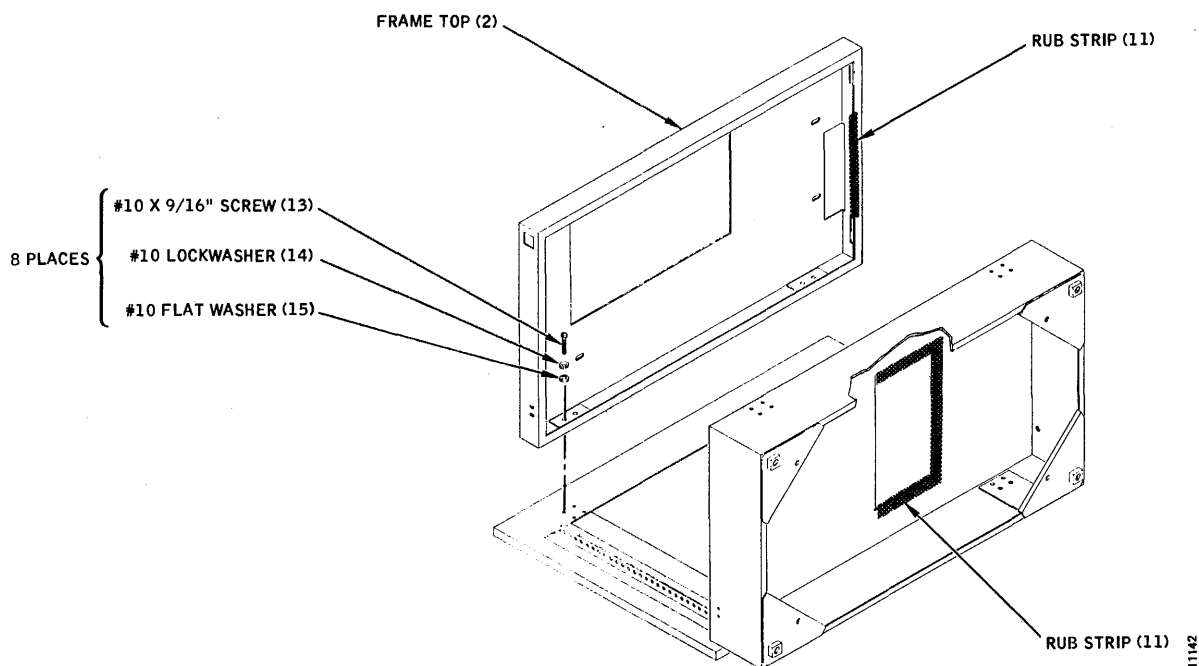

Figure A-2. Stand Assembly, Steps 3 and 4
3. Place the Frame Top (2), oriented as shown in Figure A-2, into position, and assemble it to the Left Side Panel, using eight #10 x 9/16" pan head screws, split lockwashers, and flat washers (13, 14, 15), as in the preceding step.
4. Cut lengths of plastic rub strip (11), as required, and install them over the frame edges shown in Figure A-2.